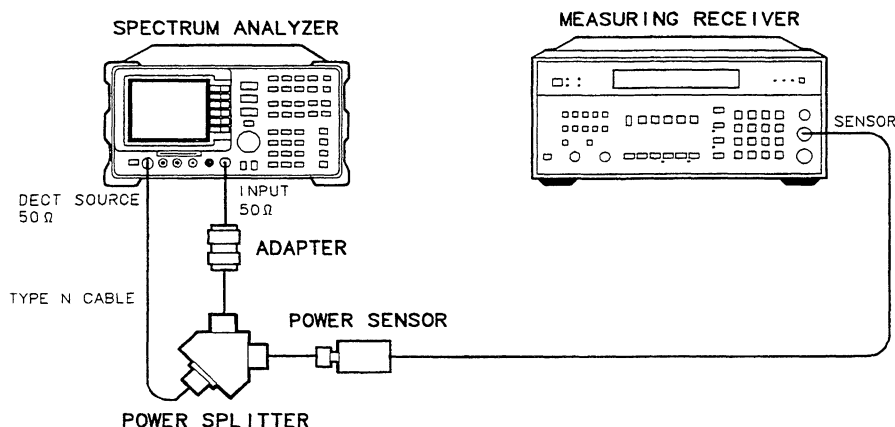

Figure 9-2. Power Sweep Range Test Setup
1. Connect the equipment as shown in Figure 9-2. Do not connect the power sensor to the power splitter at this time.
4. Zero and calibrate the power-sensor/measuring-receiver in log mode (power levels read out in dBm). Refer to the measuring receiver operation manual. Enter the power sensor 300 MHz Cal Factor into the measuring receiver. Connect the power sensor to the power splitter. Refer to Figure 9-2.